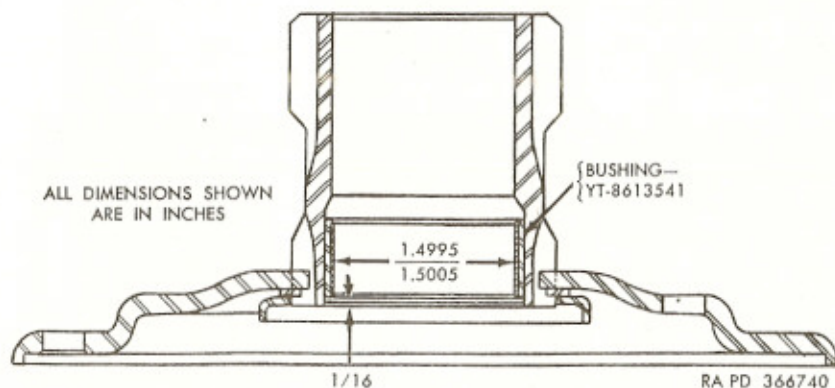

Figure 137. Sectional view of reverse center gear and bushing.
(3) Reverse center gear assembly (F).
- (b) Check bushing in reverse center gear for wear (fig. 137). If necessary to replace bushing, remove bushing with suitable tool. Press new bushing into place and finish to dimensions shown in figure 137.
(4) Reverse planet carrier assembly (N).